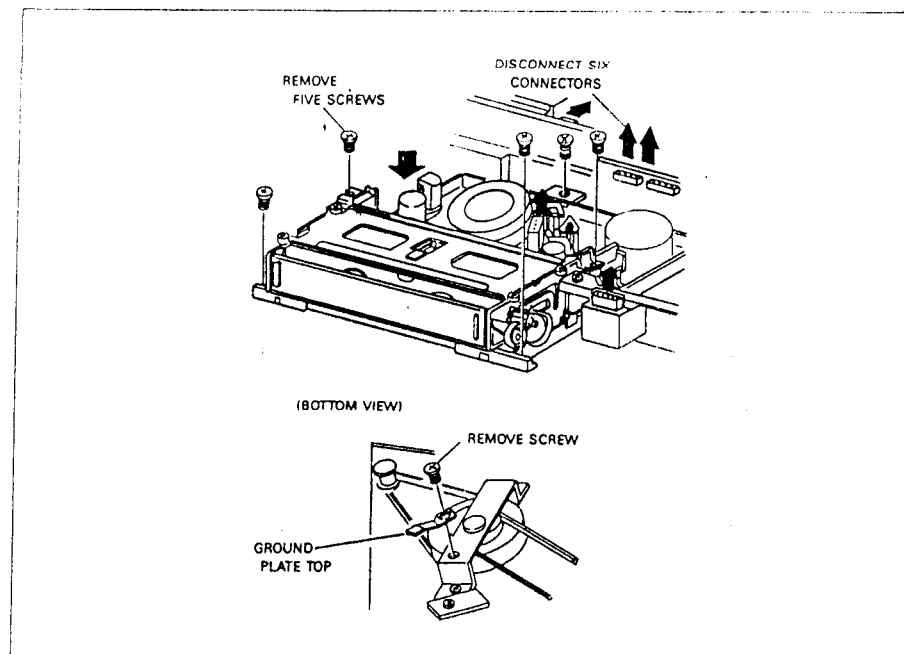
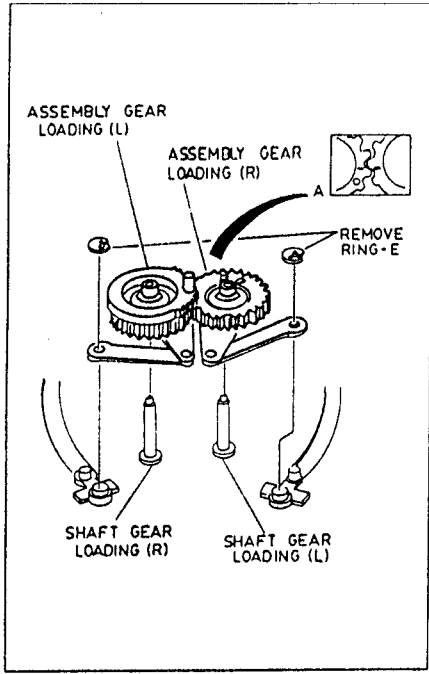

Fig. 22 Mechanical Chassis Assembly Removal
Fig. 31 Assembly Gear Loading (L) (R) Removal
2-2-4. Mechanical Chassis Assembly Removal (Fig. 22)
3. Remove the mecha chassis assembly (See Fig. 22)
2. Remove the mecha chassis assembly (See Fig. 22)
5. Remove three screws (A) holding the holder capstan motor.
6. Remove three screws (B) attached to capstan motor.
2-2-13. Assembly Gear Loading (L) (R) Removal (Fig. 31)